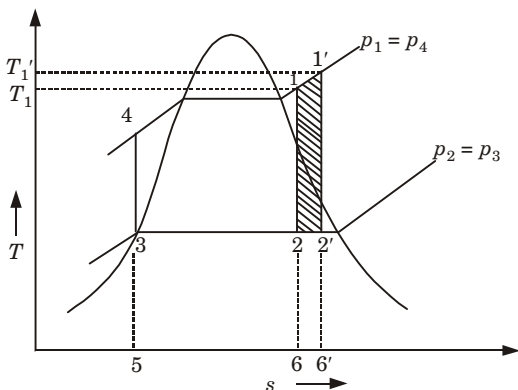

Fig. 4.16.2. Effect of increasing temperature at inlet to turbine.
- From the given Fig. 4.16.2, it is clear that increase in inlet temperature from T_1 to $T_{1'}$ (Let $T_1 < T_{1'}$) increases net work and heat addition.